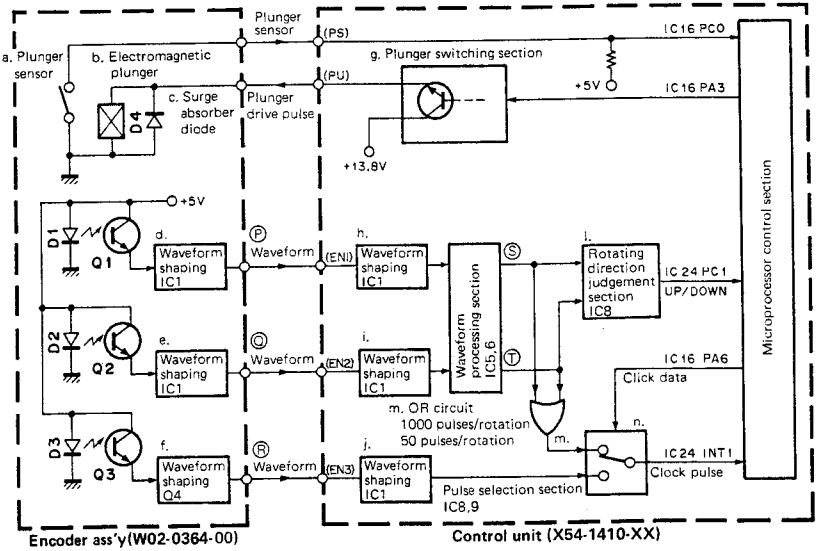
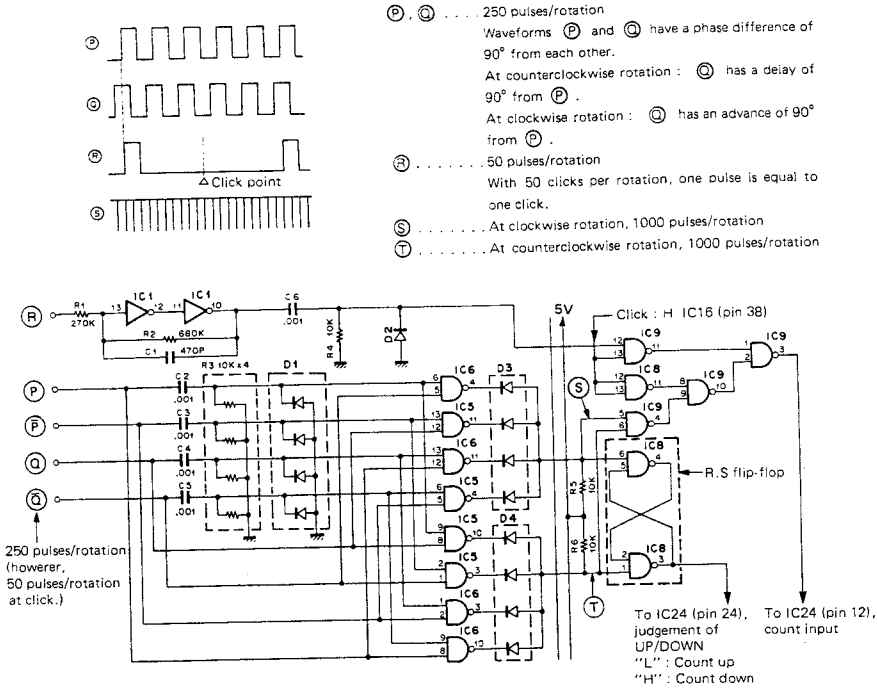

Fig. 12 Configuration of encoder processing section
Fig. 13 Output waveform of main encoder
Fig. 12 shows the configuration of the encoder section. The control pulse of the main dial "click" detent mechanism is as shown in Fig.13. When operating the [CH.Q], [CS], [VFO/M], [M-V], [SELECT], etc., keys, the CPU performs its associated process, judges whether or not the dial is detented, and inputs the status signal of the sensor (pin PS) to IC16 PCO (pin 14). For example, when the dial retent is activates, as when the dial is already detented when pin PS is "H", the process ends. However, when pin PS is "L", a 100msec pulse is emitted from PA3 IC16 pin 17, thereupon the plunger drive pulse (PN) is emitted through the switching operation of Q12 : DTC143T(S), Q13 : 2SC2459(Y) or Q14 : 2SA1307(Y).